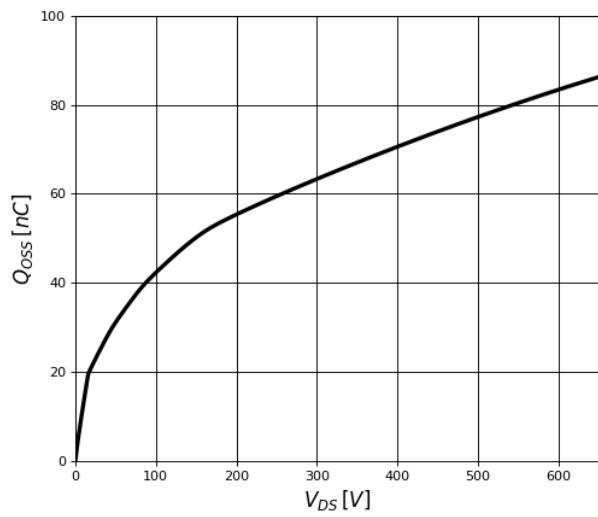

**Figure 5. Typical Capacitance**
- f. Dynamic on-resistance; see Figures 5 and 6 for test circuit and conditions